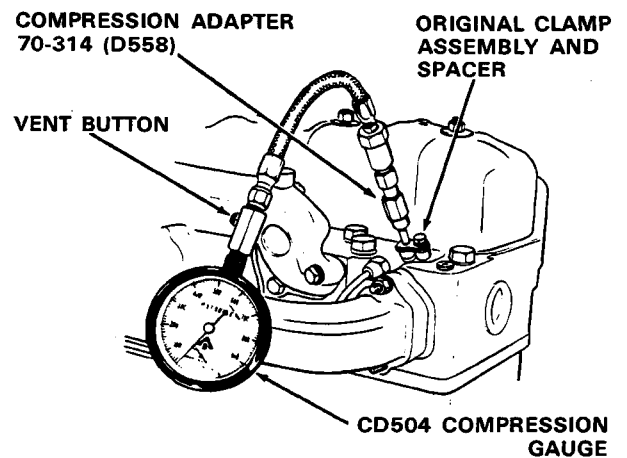

**Figure 1**
4. Clean the injector bores of loose carbon and residue. Replace the compression seal in the injector bore of the cylinder to be checked and install a Bacharach 70-314 (D-558). Compression Gauge Adapter, Figure 1. Secure with an original injector clamp assembly and spacer, Figure 1, Inset A. Tighten bolt to 20 ft. lbs. Connect Case No. CD-504 Compression Gauge to the adapter, Figure 2.